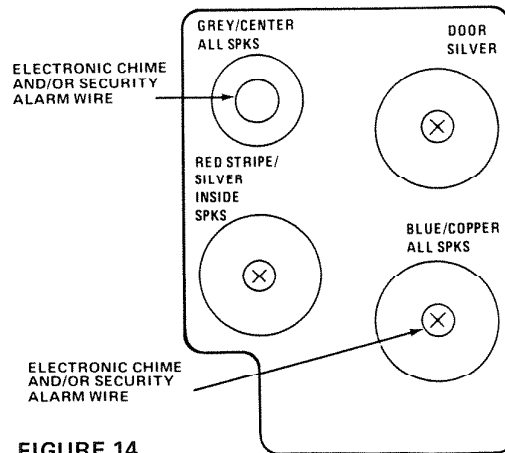

FIGURE 14
1. Connect IW-2 (22/2, twisted pair) from electronic chime to binding post marked **GREY/CENTER** and to terminal screw marked **BLUE/COPPER**. See Figure 14.
2. Connect IW-2 (22/2, twisted pair) from Intruder/Fire Alarm Control Unit and/or electronic alarm horn to binding post marked **GREY/CENTER** and to terminal screw marked **BLUE/COPPER**. See Figure 14.